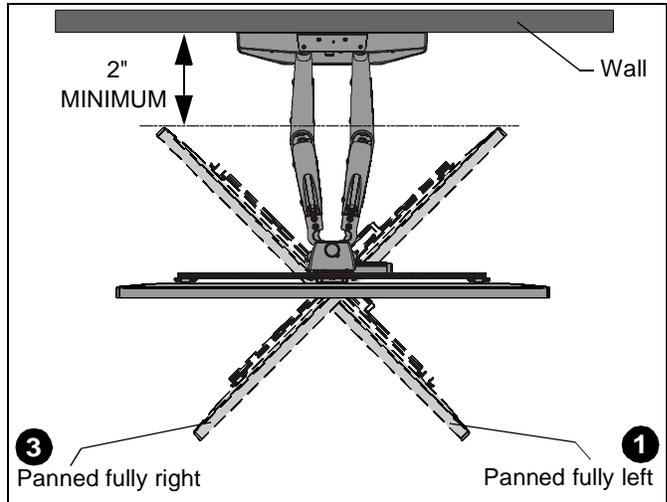

Figure 40
1. Pan PXR to left until the inside edge of display is at least 2" away from the wall. (See Figure 40)
3. Pan PXR to right until the inside edge of display is at least 2" away from the wall. (See Figure 40)